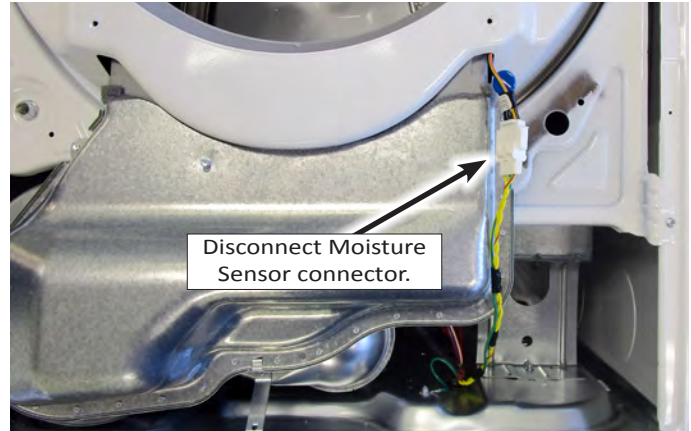

Figure 2 - Disconnect moisture sensor connector.
5. Disconnect Moisture Sensor connector (see Figure 2).